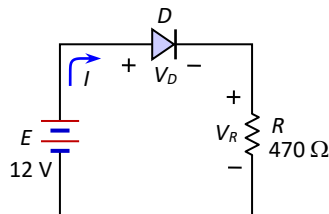
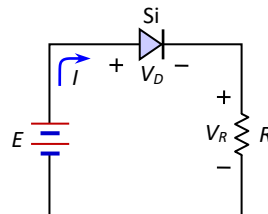
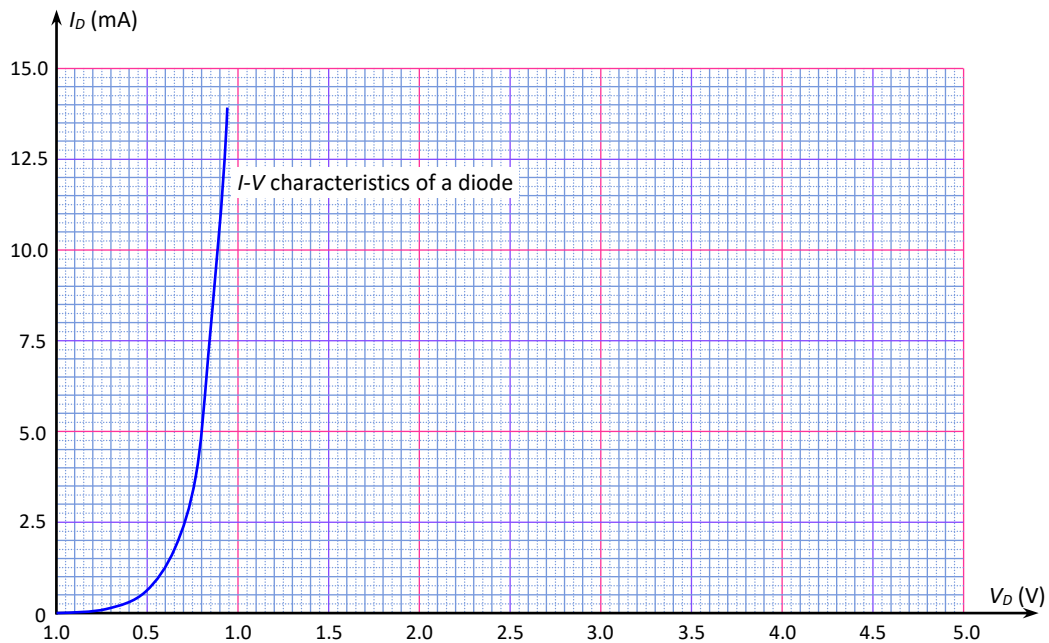

Fig.3-93: Basic diode circuit
Fig.3-94: Basic diode circuit
Fig.3-95: I-V characteristics of a diode
1. For the circuit of Fig.3-93, determine the operating point of the diode considering three types of equivalent circuits discussed in Section 3.2. Assume that the diode is made of Si and hence its barrier voltage is $V_B = 0.7 \text{ V}$. Sketch the load line and operating point for all the three cases. [For the 3rd equivalent circuit use graphical method with a typical I - V characteristic curve of Fig.3-95.]
2. Determine the value of R for the circuit of Fig.3-94 that will result in a diode current of 10 mA, if $E = 10\text{ V}$. Use the characteristic curve of Fig.3-95 for the diode.